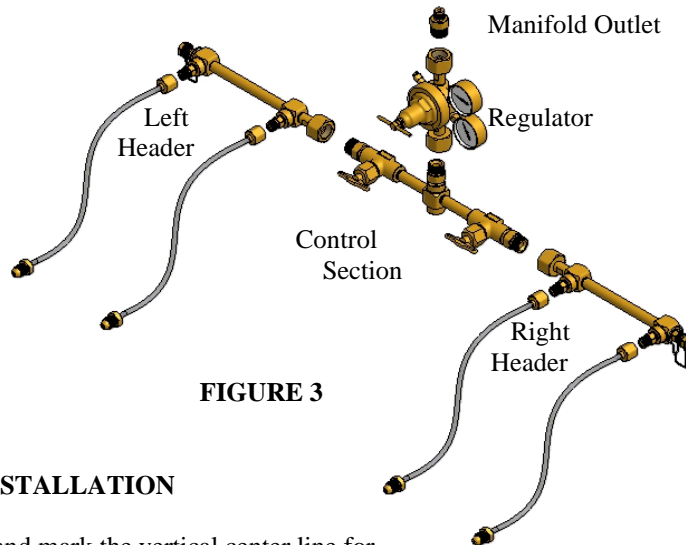

FIGURE 3
1. Assemble the regulator to the Control Section (Figure 3).
2. Assemble the headers to the Control Section inlets as shown in Figure 3.